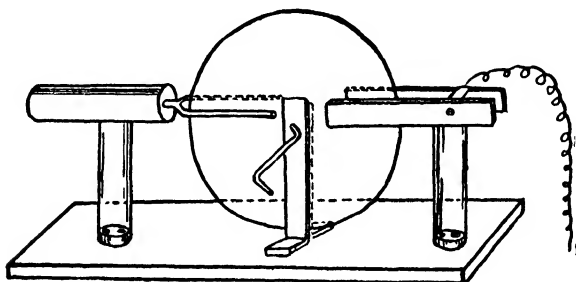

FIG. 81.—A static machine.
11.—A frictional static machine like that shown in Fig. 81 may be made as follows: Secure a board 2 feet long and 9 inches wide for a base. At the glazier's get a glass disk